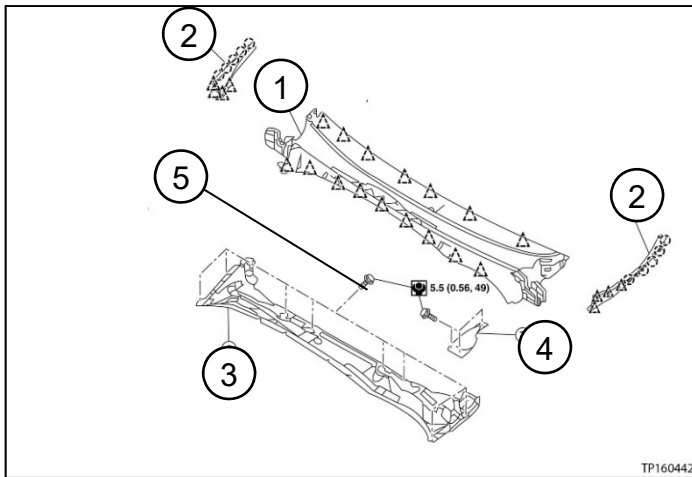
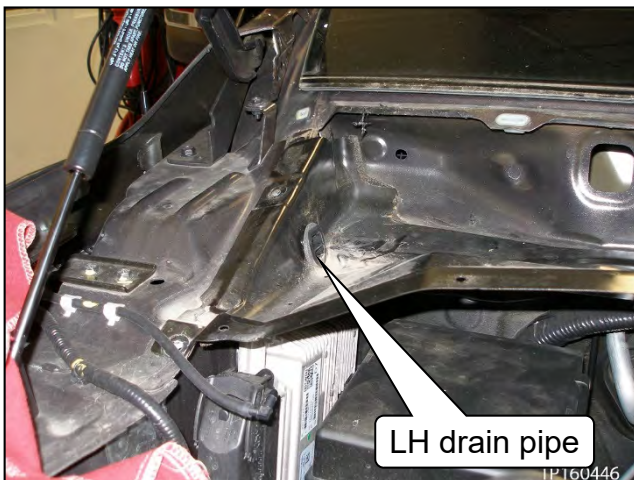
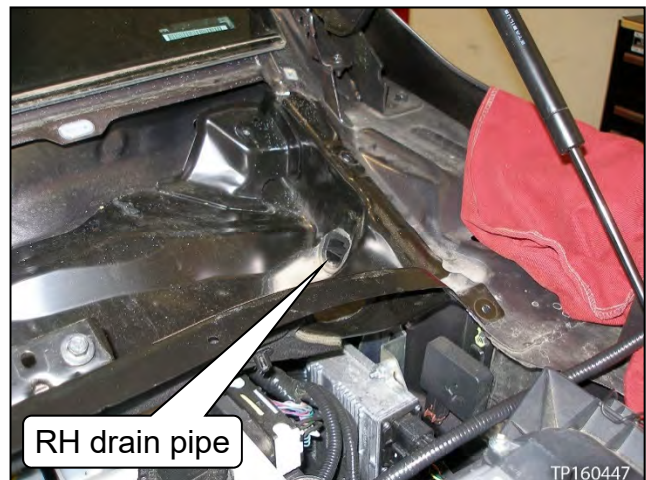

Figure 10
Figure 12
Figure 13
- e. Using a suitable tool, unsnap all pawls and clips, and then carefully remove the cowl top cover (see Figure 10, # 1).
- NOTE:** Remove the cowl top side trim cover(s) as needed (see Figure 10, # 2).
- f. Remove the cowl top extension bracket (see Figure 10, # 4).
- h. Remove the eight (8) bolts and both drain pipes, and then remove the cowl top extension (see Figure 10, # 3 & 5, and Figure 12 and Figure 13).